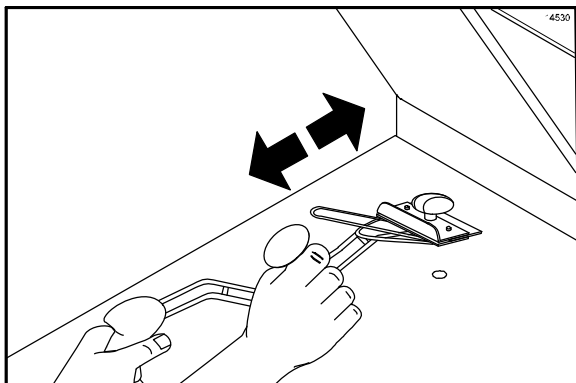

Figure 31
- Using the grill scraper, scrape the grease on the lower grill plate from front to back. **Do not** scrape across the rear of the lower grill plate with the grill scraper. (See Figure 31.)